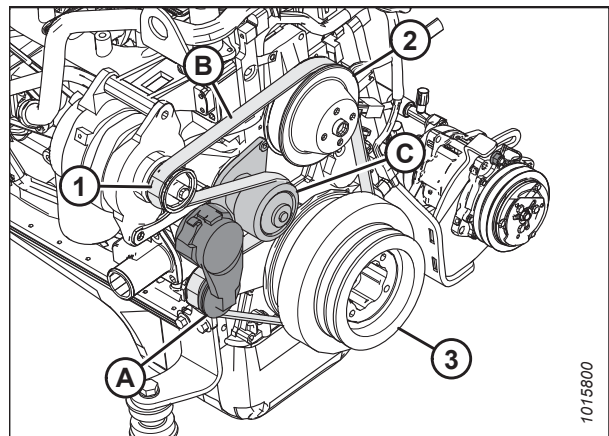

Figure 5.175: Engine Belt
5. Insert the drive end of a 1/2 in. drive ratchet wrench into belt tensioner (A).
6. Rotate tensioner counterclockwise until fan belt (B) can be slipped off pulley (C). Release the tensioner and remove the wrench.
7. Remove the belt in order 1, 2, 3, as shown in Figure 5.175, page 416.
8. Insert the drive end of a 1/2 in. drive ratchet wrench into belt tensioner (A).
9. Rotate the tensioner counterclockwise until belt (B) can be slipped onto pulley (C). Release the tensioner and remove the wrench.